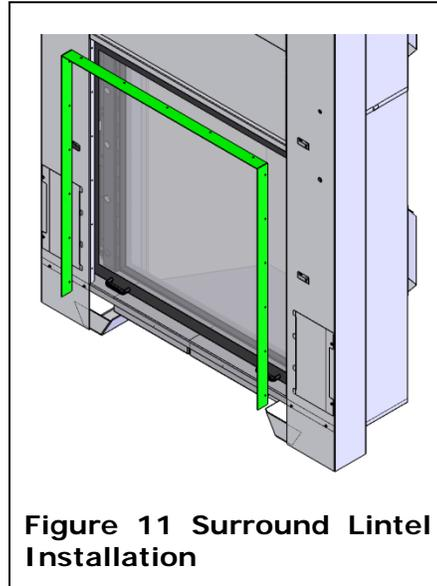

Figure 11 Surround Lintel Installation
Lintels are provided with the fireplace to easily finish the border of the front opening. Use the rivets provided (N) to attach the lintels to the fireplace as shown in Figure 11.